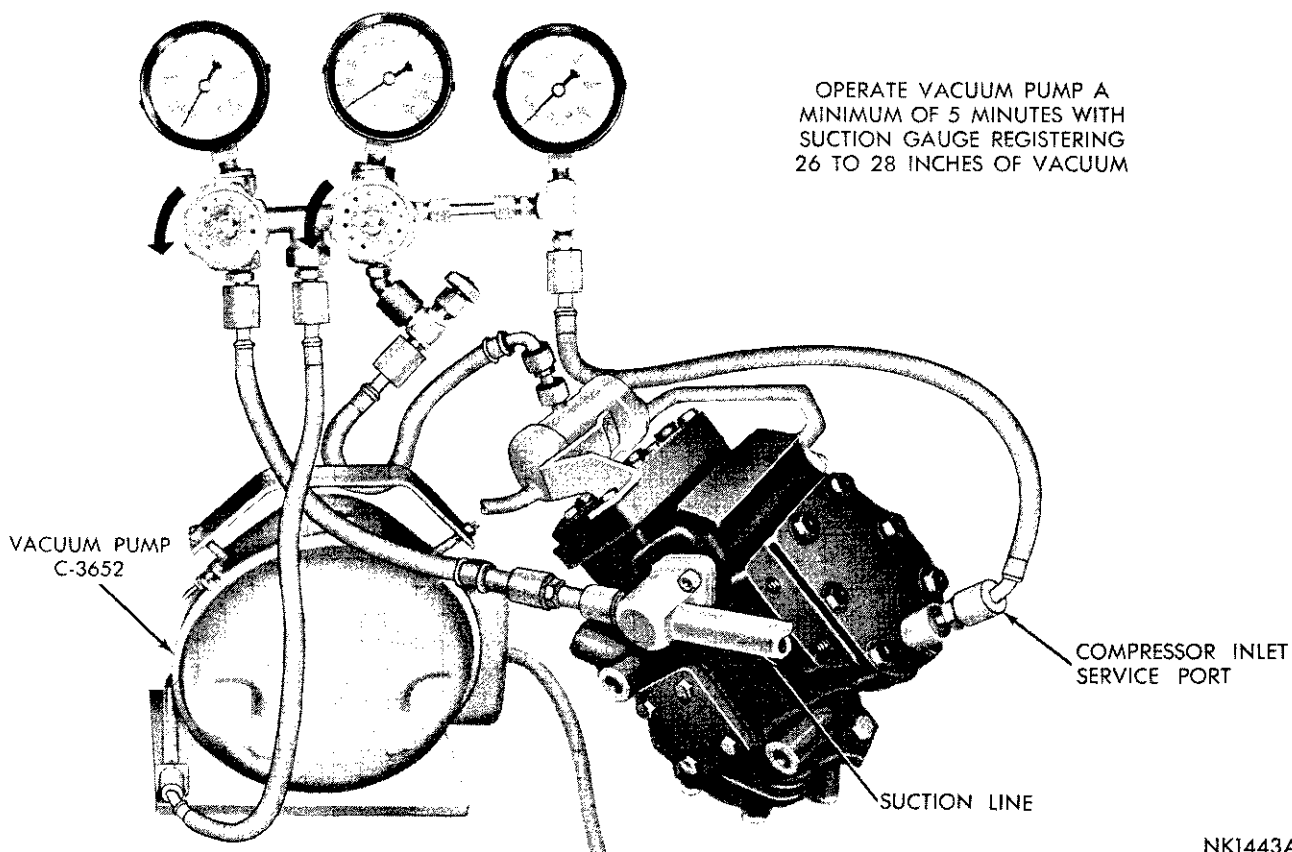

Fig. 1—Evacuating the System
(1) Connect gauge set manifold to compressor and long test hose from gauge set manifold center connection to vacuum pump, Tool C-3652. (Fig. 1).
(2) Open both gauge set manifold valves, and the needle valve.
(3) Start the vacuum pump and operate until the evaporator suction gauge registers at least 26 inches of vacuum. If system is tight and pump in good condition, vacuum will go as low as 28 inches.
(4) Allow vacuum pump to operate with the suction gauge registering 26 to 28 inches of vacuum for a minimum of five minutes.
(5) Close both gauge set manifold valves, turn off vacuum pump and remove test hose from vacuum pump. Leave gauge set manifold connected to compressor. Charge system with proper amount of Refrigerant 12. **Failure to pull at least 26 inches of**